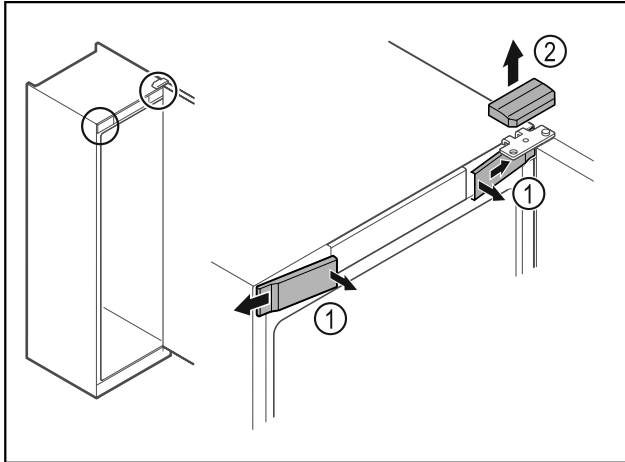

Fig. 11
- ▶ Unlatch the front covers Fig. 11 (1) on the inside and remove them sideways.
- ▶ Lift off the upper cover Fig. 11 (2).